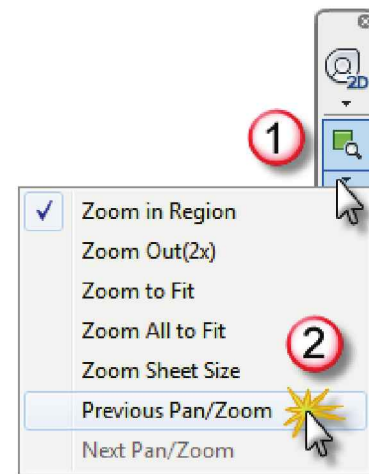

FIGURE 1-5.4 Zoom Icon drop-down
- Click the down-arrow next to the zoom icon (Figure 1-5.4). Select **Previous Pan/Zoom**.